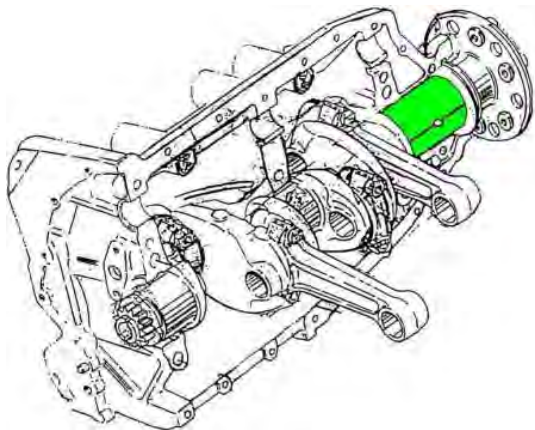

Figure 77
- (1) Apply a coating of engine oil mixture to the front main bearing halves.
- (2) Install the front bearing halves, where they touch (butt together) around the crankshaft.
- (3) Lift the crankshaft assembly by the connecting rods. Lower the crankshaft assembly into the crankcase half (Figure 77). Let the connecting rods extend through the cylinder base openings in the crankcase half.